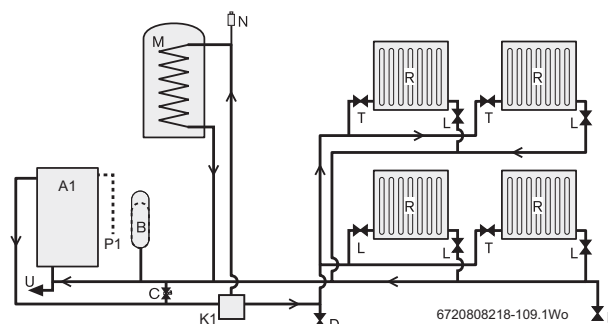

Fig. 10 System appliance system layout
- Where the system volume is more than 180 litres at 0.5 bar or exceeds 2.65 bar at maximum heating temperature an extra expansion vessel [B] figure 10 must be fitted as close as possible to the appliance in the central heating return.
- Pressurise the extra expansion vessel [B] figure 10 to the same figure as the expansion vessel built into the appliance (system boilers).